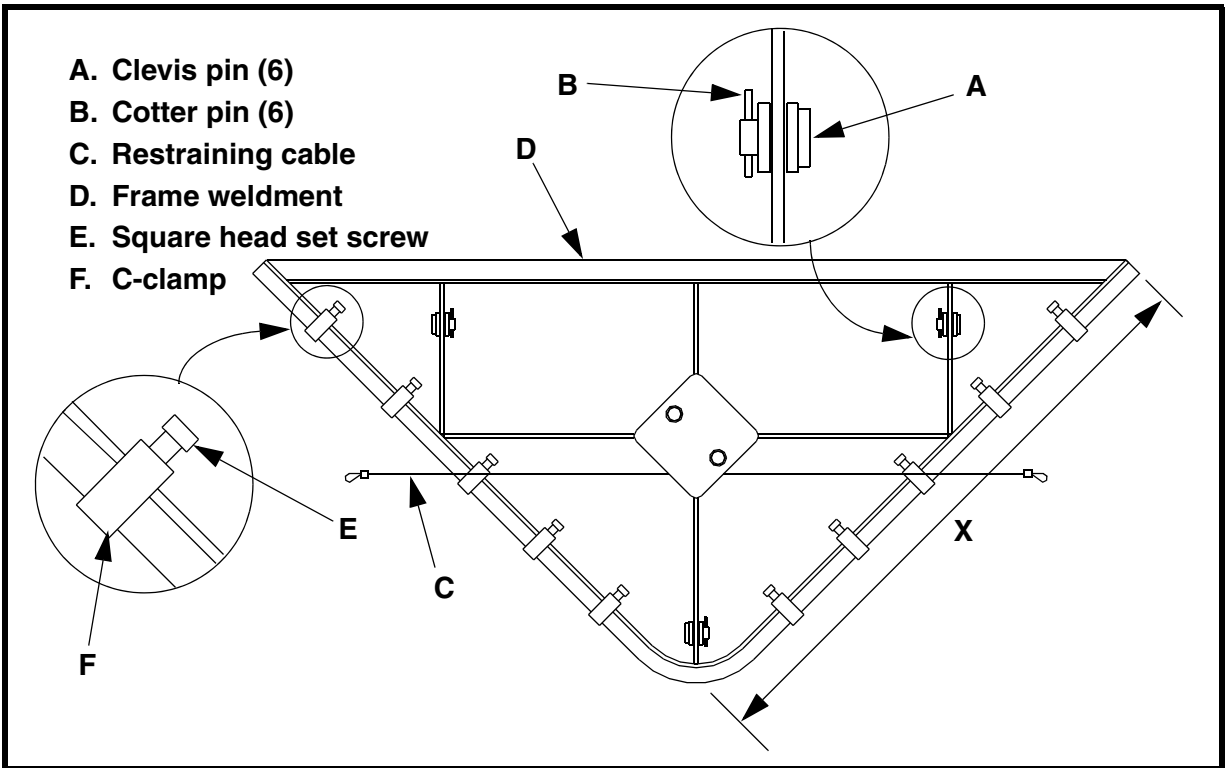

Figure 4. Installing Martin® V-Plow HD
6. Insert the hanger bars (C, Figure 1) through the mounting holes. Attach each hanger pivot arm (G) to the hanger bar with a clevis pin (A, Figure 4) and cotter pin (B).
8. Attach a restraining cable (C, Figure 4) to the conveyor stringers far enough from the tail pulley. Make sure v-plow is located according to chart in Figure 1. Leave no more than 2 in. (51 mm) of slack in cable.
3. Check the cleaning edge for wear. If it is worn almost to the frame weldment (D, Figure 4), replace as follows:
- a. Remove the square head set screws (E) and C-clamps (F) holding the cleaning edge against the frame weldment.